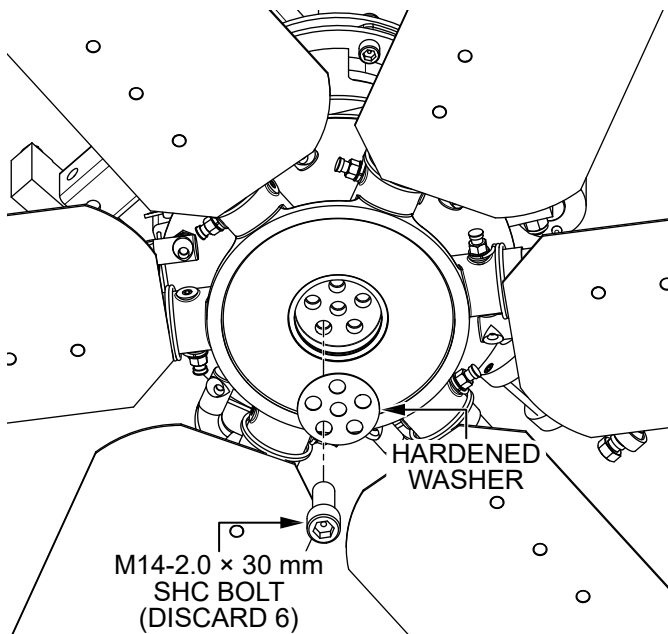

Figure 53. Remove Left-Side Spider Hardware
- Remove and discard the **six M14-2.0 × 30 mm SHC bolts** and **one hardened washer** (Figure 53) securing the left-side spider assembly to the bottom of the left-side hydraulic motor.